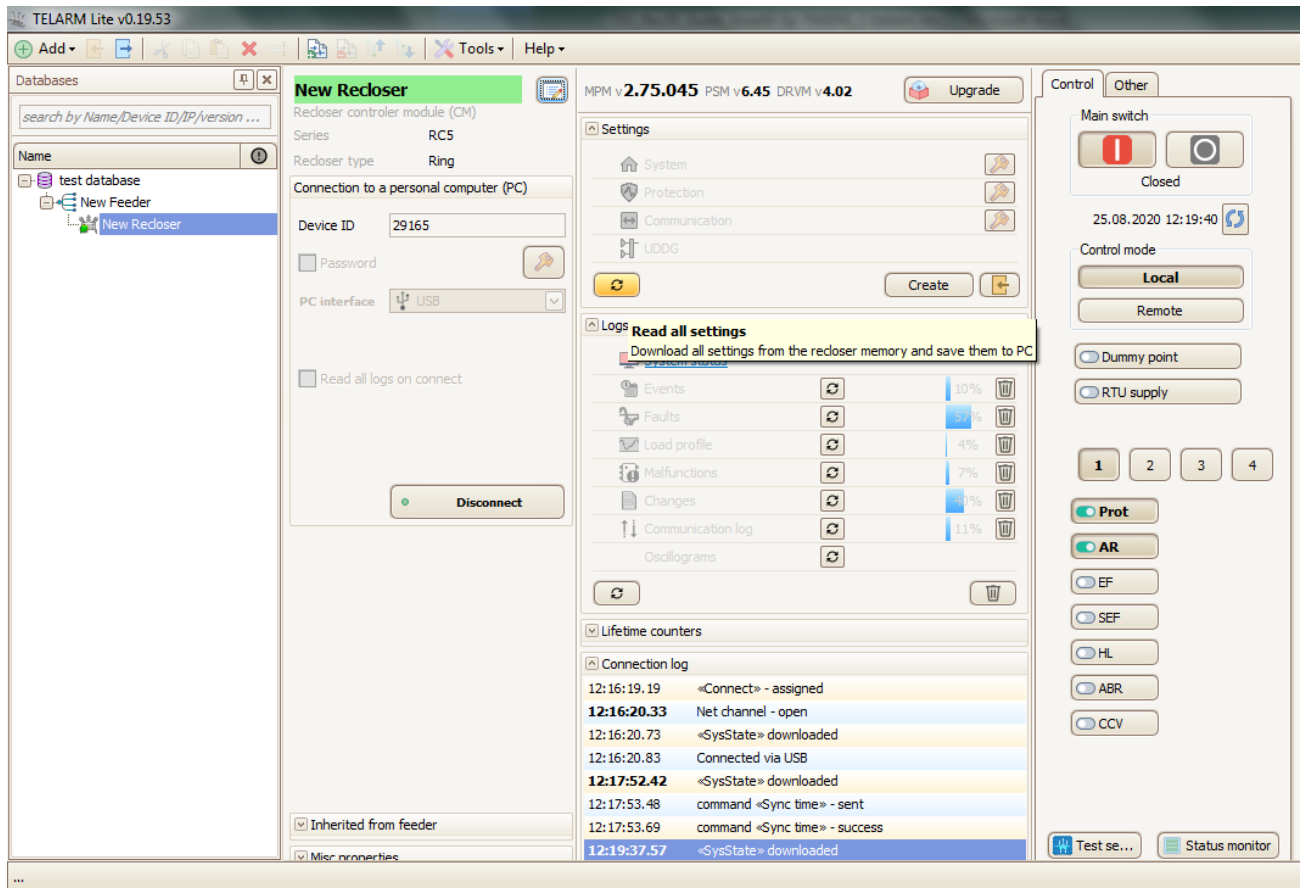

Figure 70
- 2) In the “Settings” tab, click the “Read all settings” button (Figure 70);